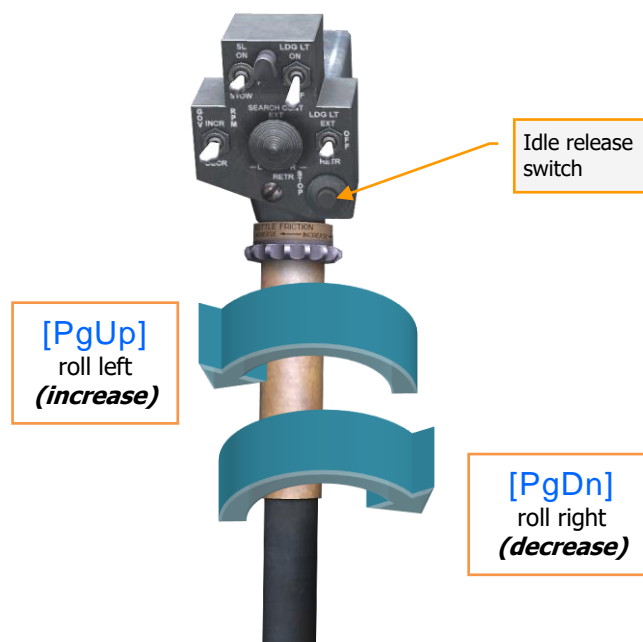

Figure 9.1. Direction of Rotation of the Throttle.
- a) Roll the throttle fully left (increase) (Figure 9.1) from FULL CLOSE (Figure 9.2, 1) to FULL OPEN position by pressing and holding [PgUp].